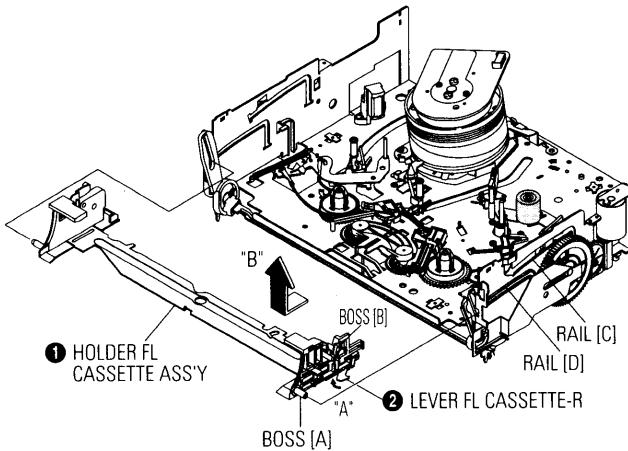

Fig. 4-11 Holder FL Cassette Ass'y Removal
- 2) Remove the Holder FL Cassette Ass'y. (Refer to Fig. 4-11)
- 3) Release the Hook ① in the direction of arrow "A", pull out the Lever FL Arm Ass'y ④ from the Boss of Main Base.
- 4) Remove the Lever FL Arm Ass'y ④ in the direction of arrow "B".